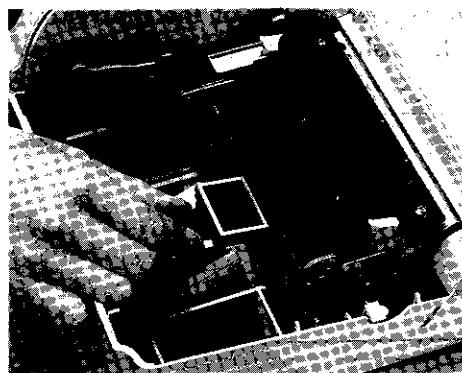

Fig. 7-1.
3. Feed one or two drops of ink into the holes on the back of the stamp pad (Fig. 7-1)